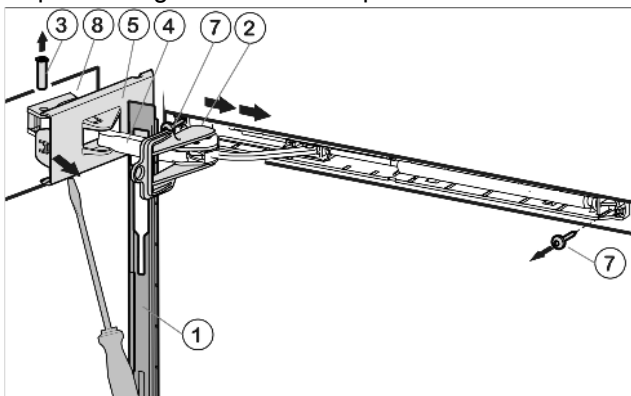

Fig. 15
- ▶ Push panel forward over the damper bracket Fig. 15 (4) in the direction of the appliance.
- ▶ Engage locking device Fig. 15 (2) into place inside oblong hole.
- ▶ Unscrew cover that is on the hinge side Fig. 15 (5) until the first notch using a screwdriver.
- ▶ Push bolt Fig. 15 (3) out from below.
- ▶ Press damper bracket Fig. 15 (4) in the direction of the door.
- ▶ Completely loosen cover that is on the hinge side Fig. 15 (5) and remove.
- ▶ Remove panel Fig. 15 (1).
- ▶ Unscrew soft stop unit (2 x Torx 15) Fig. 15 (7).